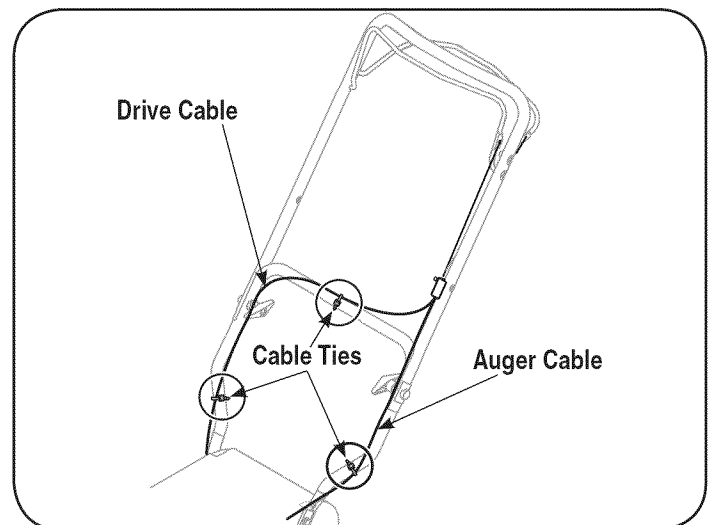

Figure 3
2. Slide the loosely fitted cable tie from the right side of the lower handle up to the cross member of the lower handle. Leave the second cable tie in place on the right side of the lower handle. See Figure 3 for reference.
**NOTE:** The auger cable routes down the left lower handle and the drive cable is routed across the top of the lower handle and down the right side of the lower handle. See Figure 3.
6. Three cable ties have been used to loosely tie the control cables to the lower handle, including the cable tie you relocated in step 2. Position cable ties now, as in Figure 3, and tighten to secure cables to the lower handle. Trim off excess material of cable ties.